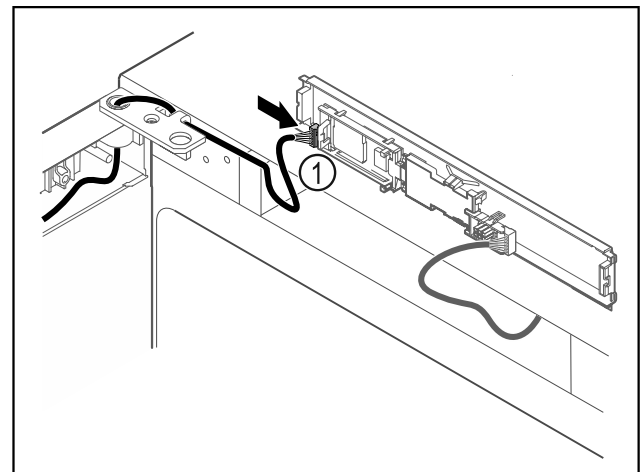

Fig. 58
- ▶ Connect the plug Fig. 58 (1) to the circuit board.